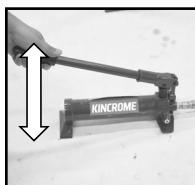

Fig.6
2. Using the handle, rapidly pump continuously 15-20 full strokes to purge air from the hydraulic system (Fig 6).